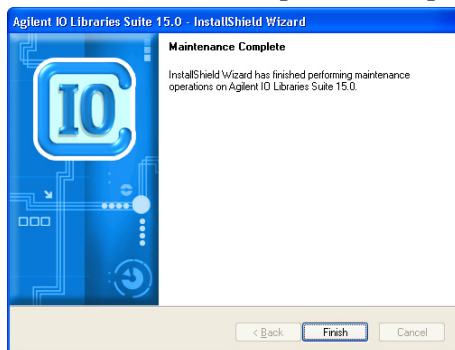

Figure 54 Agilent IO Libraries Suite Maintenance complete.
- 4** Press **Finish** to complete the repair (see Figure 54).